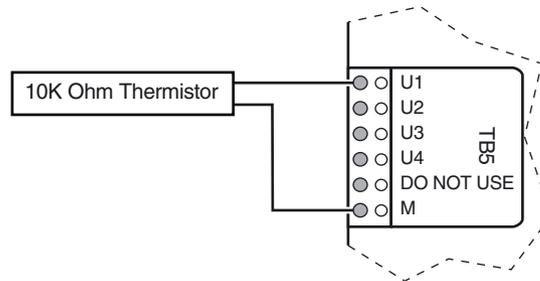

Figure 10. Auxiliary Thermistor Connection
2. Connect the other lead to the ground terminal on the input terminal block TB5-6 (Ground) (see Figure 10).